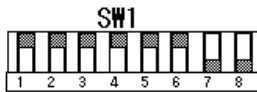

Figure 4.5 DIP Switch Settings
(3) After setting the DIP switches as shown in figure 4.5 (1), enter Y.
(4) If no error occurs, the following message is displayed:
(6) After setting the DIP switches as shown in figure 4.5 (2), enter Y.
(7) If no error occurs, the following message is displayed:
(9) After setting the DIP switches as shown in figure 4.5 (3), enter Y.
(10) If no error occurs, the following message is displayed: